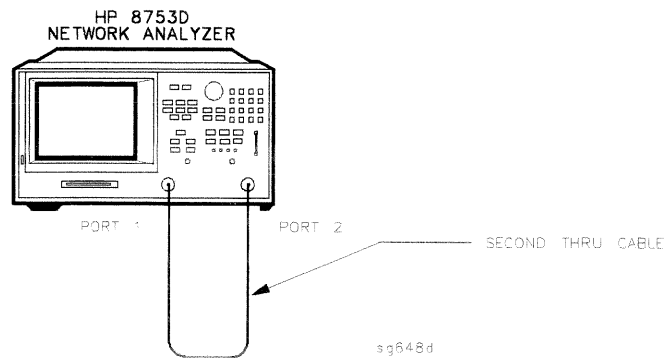

Figure 3-10. Connections for the Second Thru Cable
23. When the analyzer displays **CONNECT PORT 1 TO PORT 2**, make the connections of the second thru cable (of which you have determined its insertion loss) as shown in Figure 3-10.